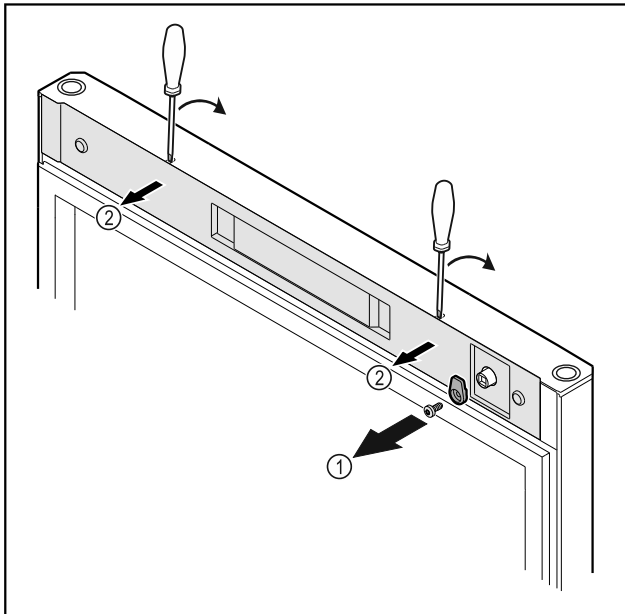

Fig. 19
- ▶ Unscrew the door latch Fig. 19 (1).
- ▶ Unlatch the cover Fig. 19 (1) with a small screwdriver and remove it.